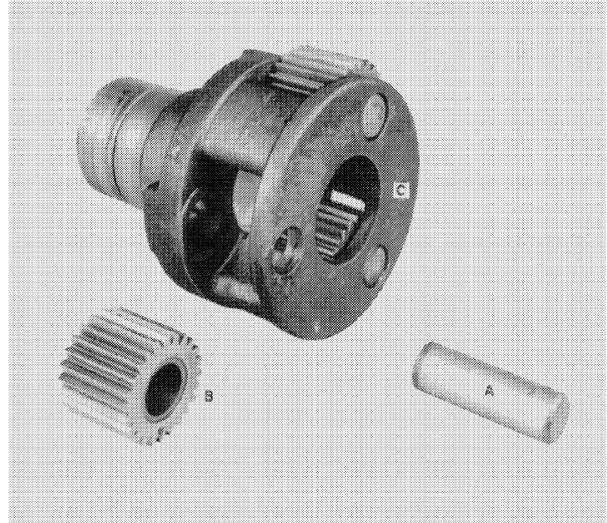

FIGURE 1-20
8. To remove gears, B, Figure 1-20, press pin shafts, A, from carrier, C.
2. Install the gears in carrier and press pin shafts, A, Figure 1-20, in until they are flush with the carrier.